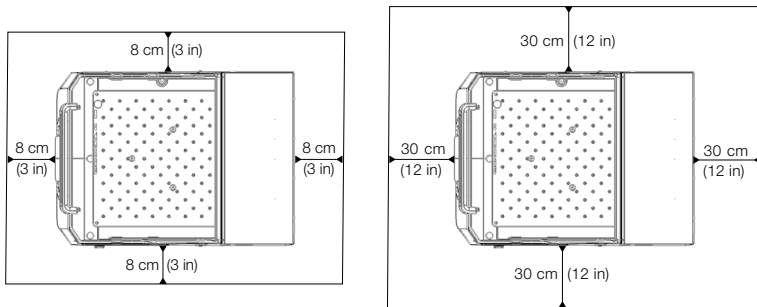

Figure 9: Set Up Clearances for Incubated (left) and Refrigerated Shakers (right); refrigerated with free air above are covered by the left image.
- Solaris 2000 I and 4000 I incubated shakers require a clear area of 8 cm (3 in) on all four sides of the casing, as shown on the left side of Figure 9.
- Solaris 2000 R and 4000 R refrigerated shakers may be operated with a clear area of 8 cm (3 in) on all four sides of the casing if there is **free air space** above their hood, as shown on the left side of Figure 9.
increased to 30 cm (12 in) on all four sides, as shown on the right side of Figure 9.